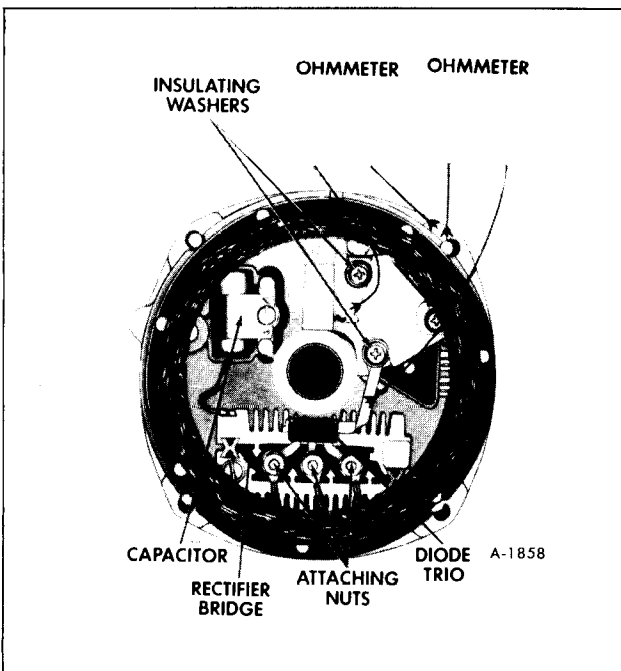
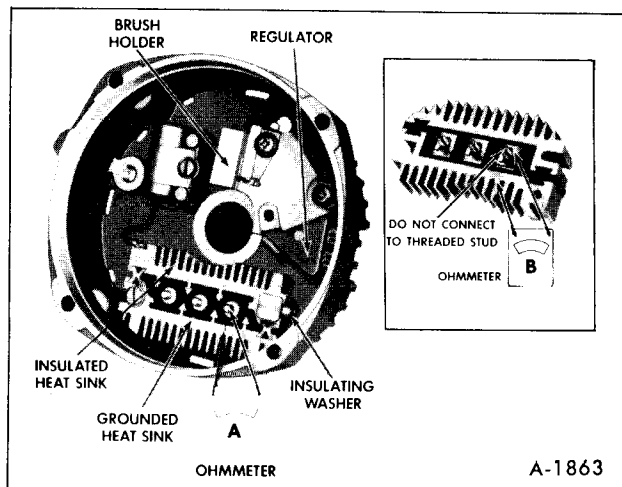

Figure 19-Slip Ring End Frame
Figure 24—Rectifier Bridge Check
b. Connect ohmmeter using lowest range scale from brush lead clip to end frame as shown in Step 1 in Figure 19 then reverse lead connections.
d. A grounded brush lead clip can result from omission of insulating washer (figure 19) omission of insulating sleeve over screw, or damaged insulating sleeve. Remove screw to inspect sleeve. If satisfactory, replace regulator.
9. If output is within 10% of rated output, replace the regulator (figure 19).
The diode trio is identified in Figure 19. First, connect an ohmmeter using lowest range scale from diode trio long connector to end frame as shown in Step 2, Figure 19, then reverse lead connections. If both readings are the same, check for grounded brush lead clip caused by omission of insulating washer (figure 19), omission of insulating sleeve over screw, or damaged insulating sleeve. Remove screw to inspect sleeve. **If screw assembly is correct, and both ohmmeter readings are the same, replace regulator.**
**NOTE:** Figures 19 and 23 illustrate two diode trios differing in appearance. Either one of these diode trios may be used in these generators, and the two are completely interchangeable.
After removing the three attaching nuts, the stator, and diode trio screw (figure 24) the brush holder and regulator may be replaced by removing the two remaining screws. Note the two insulators located over the top of the brush clips in Figure 19, and that these two screws have special insulating sleeves over the screw body above the threads. The third mounting screw may or may not have an insulating sleeve. If not, this screw must not be interchanged with either one of the other two screws, as a ground may result, causing no output or uncontrolled generator
To check the rectifier bridge, connect the ohmmeter to the grounded heat sink and one of the three terminals, (figure 24). Connect to flat metal connector, and not onto threaded stud. Then reverse the lead connections to the grounded heat sink and same terminal. If both readings are the same, replace the rectifier bridge. A good rectifier bridge will give one high and one low reading. Repeat this same test between the grounded heat sink and the other two terminals, and between the insulated heat sink and each of the three terminals. This makes a total of six checks, with two readings taken for each check.
To replace the rectifier bridge, remove the attaching screws, and disconnect the capacitor lead. Note the insulator between the insulated heat sink and end frame (figure 24). Rectifier bridges may vary in appearance but are completely interchangeable in these generators.